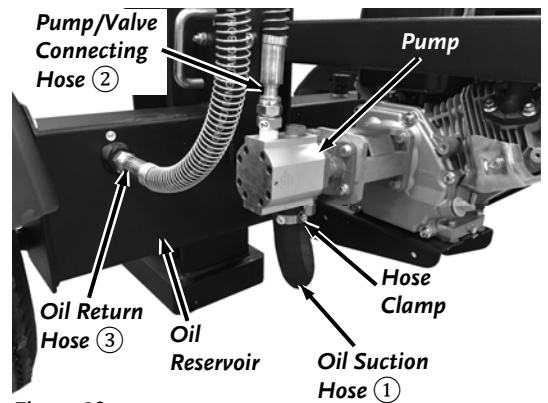
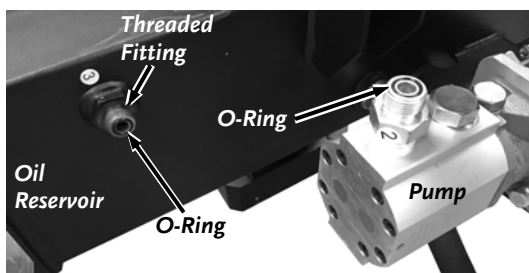
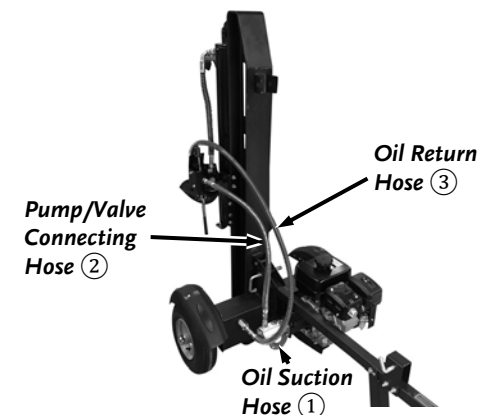

Figure 20
Figure 22
Figure 21
1. Oil Suction Hose, labeled as ①, comes from the bottom of the Oil Reservoir (**Figure 20**). Loosen the Hose Clamp on the open end of this hose using a flat head Screwdriver and connect the hose to the fitting on the bottom of the Pump. Tighten the hose clamp.
2. Pump/Valve Connecting Hose, labeled as ②, comes from the bottom of the valve on the Beam Assembly (**Figure 21**). Apply some Hydraulic Fluid to the O-Ring (11mm X 2mm) from Hardware Kit #4 and place the O-Ring into the groove of the fitting on top of the Pump (**Figure 22**). Screw the open end of this hose onto the fitting on top of the pump using a 27mm Wrench (or adjustable wrench) (**Figure 20**).
3. Oil Return Hose labeled as ③, comes from the front of the valve on the Beam Assembly (**Figure 21**). Apply some Hydraulic Fluid to the O-Ring (11mm X 2mm) from Hardware Kit #4 and place the O-Ring into the groove at the end of Threaded Fitting on the Oil Reservoir (**Figure 22**). Screw the open end of this hose onto the Oil Reservoir using a 27mm Wrench (or adjustable wrench) to tighten the hose (**Figure 20**).